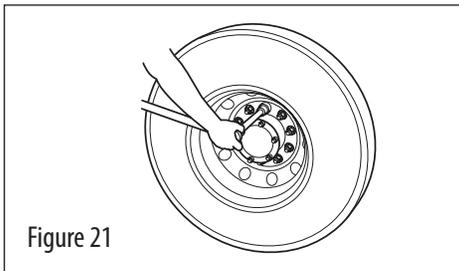
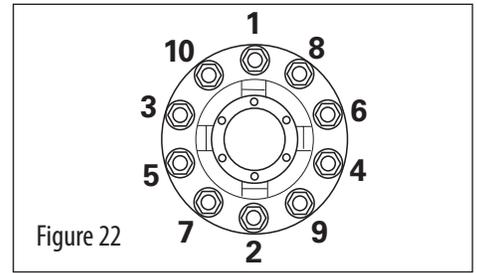

Figure 21
Figure 22
Always snug the top nut first to fully seat the brake drum on the drum pilot and against the hub face. See the adjacent diagram for bolt tightening sequence, and tighten in order from 1 through 8 or 10, depending on the bolt pattern (see Figure 21 and Figure 22).
7. Snug the top nut first. Apply 50 ft.-lbs. torque to draw the brake drum up fully against the hub (see Figure 21).
8. Install the remaining wheel nuts and using the sequence as shown, torque all the nuts to 50 ft.-lbs., then retorque to 450-500 ft.-lbs. (see Figure 22 and 23). The last nut rotation must be with a calibrated torquing device.